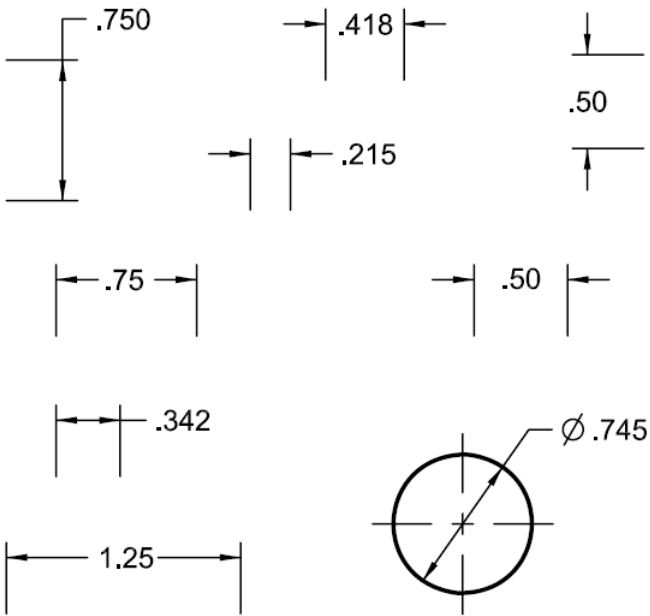

Figure 3 Preview of Inch dimensioning
1. A zero is not added before the decimal point for values less than one, refer to Figure 3.
2. Zero added to the right of decimal is tolerance specific. It should be used only if needed, refer to Figure 3.